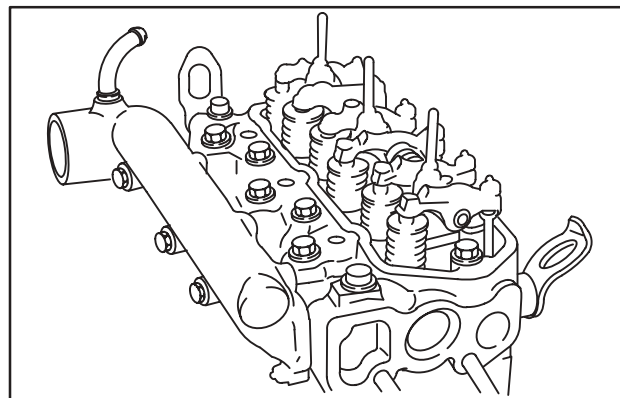

Fig. 36 – Install Intake Manifold
5. Install intake manifold with new gasket, Fig. 36.